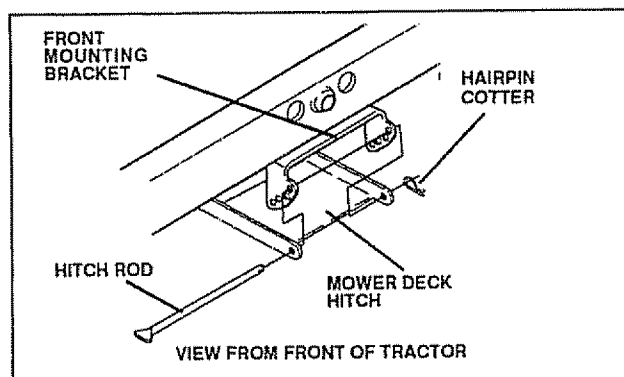

FIG. 7B
- Remove hitch rod and hairpin cotter from front mounting bracket and lay aside (see Fig. 7B).
- Align holes in the mower deck hitch with the top set of holes in the front mounting bracket and reinstall the hitch rod and hairpin cotter (see Fig. 7B).